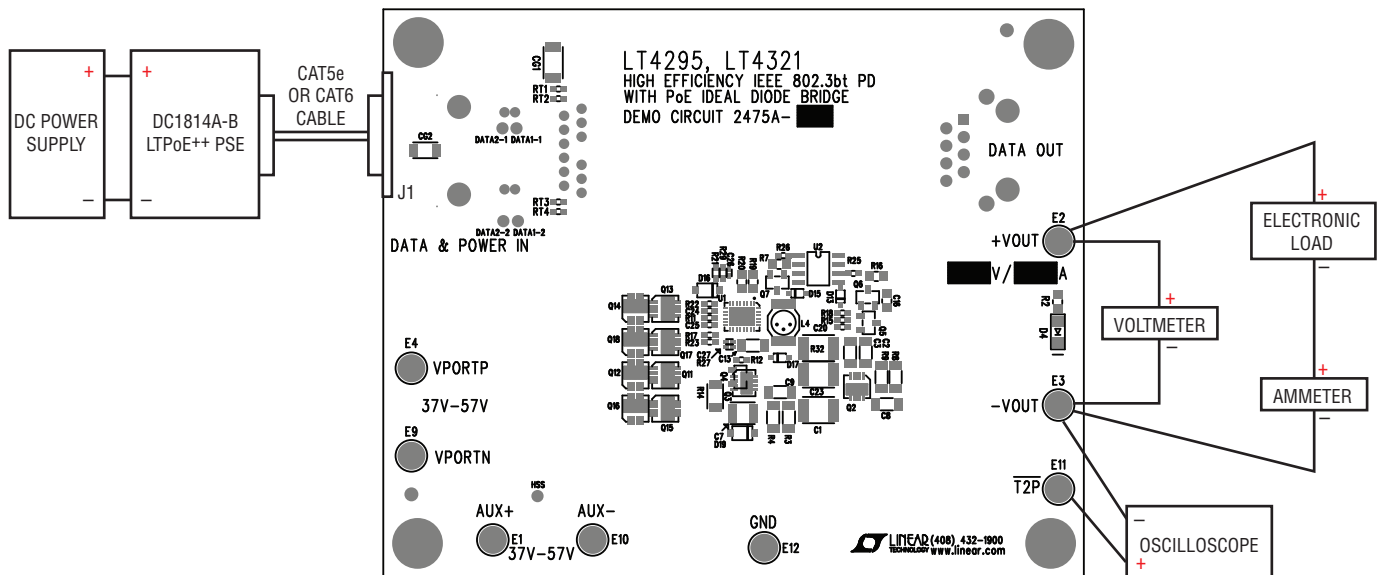

Figure 8. Setup Diagram for PoE Input
2. Place and connect test equipment (voltmeter, ammeter, oscilloscope, and electronic load) as shown in Figure 8.
8. Verify $\overline{T2P}$ response with an oscilloscope as shown in Figure 8. The $\overline{T2P}$ response to the type of PSE connected to the DC2475A-A is provided in Table 1.